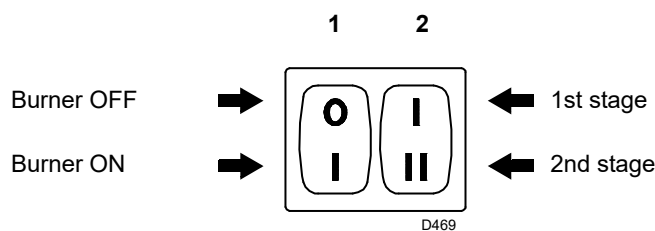
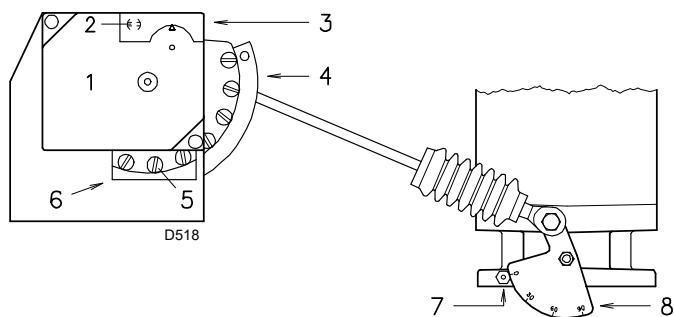

Fig. 28
Fig. 29
- switch 1)(Fig. 28) in "**BURNER ON**" position;
- switch 2)(Fig. 28) in "**1st STAGE**" position.
In the above description, we left the burner running, operating in 1st stage. Now move switch 2)(Fig. 28) to 2nd stage position: the servomotor will open the air damper and, at the same time, the gas butterfly valve at 90°.
Progressively adjust the end profile of cam 3)(Fig. 29) by turning the screws 5).
Move the switch 2)(Fig. 28 on page 24) in "1st STAGE" position: the servomotor 1)(Fig. 29) will close the air damper and, at the same time, will also close the gas butterfly valve to 15°, i.e. to the factory setting.
- If it is necessary to increase it, pass to 2nd stage by activating switch 2)(Fig. 28 on page 24) and slightly increase the angle of the orange lever with small, regular movements, i.e. bring it from an angle of 15° to 17° - 19°...
Progressively adjust the initial profile of the cam 3)(Fig. 29) by turning the screws 4).
Turn off the burner using the switch 1)(Fig. 28 on page 24) and turn the intermediate screws of the cam so that the cam tilt is progressive.